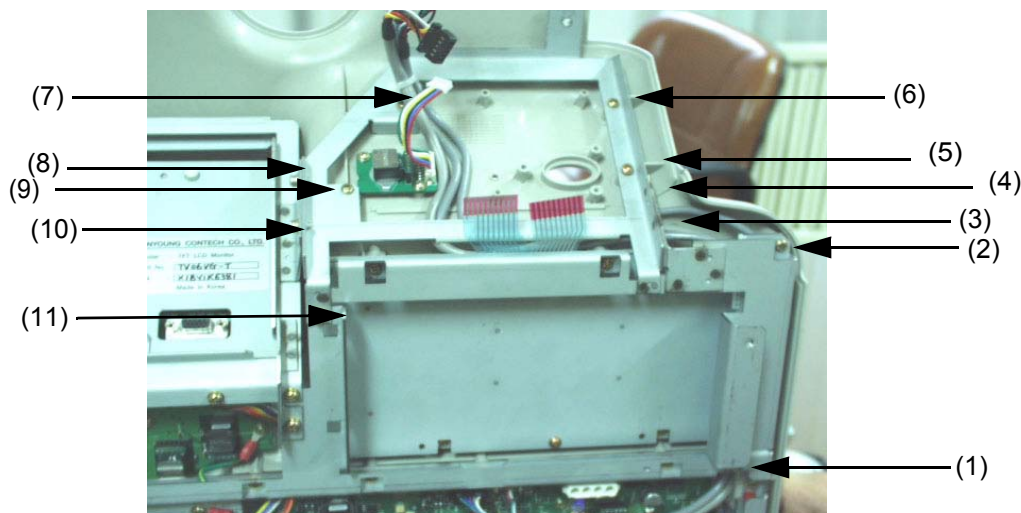

Figure 8-63 Unscrew 11 screws
- 3.) Unscrew eleven (11) screws (1-11) to remove the A/N keyboard prefix bracket. Refer to section Figure 8-63 on page 23..